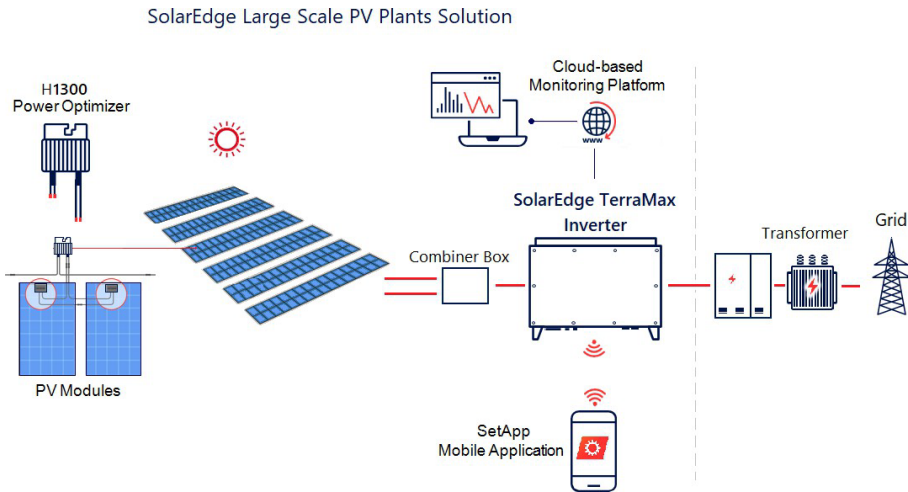

Figure 1 The SolarEdge Large Scale PV Plants Solution
This SolarEdge power harvesting solution is designed to maximize the power output from any type of solar Photovoltaic (PV) installation while reducing the average cost per Watt. *Figure 1* shows and the following sections describe the components of the SolarEdge power harvesting system. Figure 1 shows SolarEdge Large Scale PV Plants Solution.